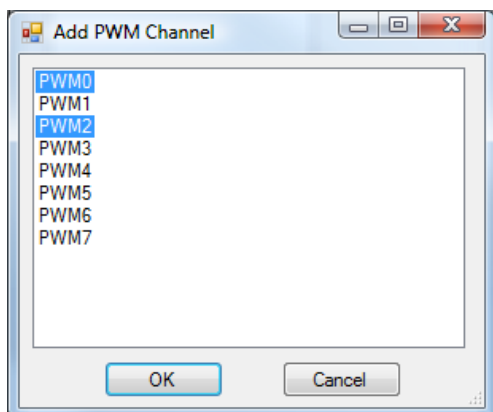

Figure 2.10 - ADD PWM Window
5. In the ADD PWM dialog, select the channels to install. To select multiple PWM channels, hold the CTRL key while clicking on the channel. Refer to Figure 2.10.